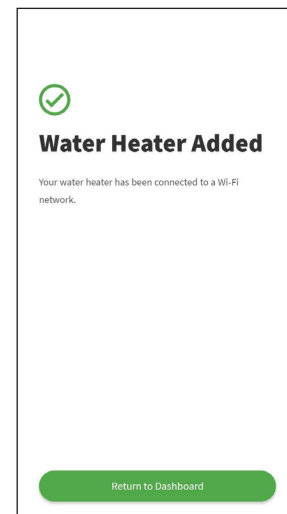

Figure 157 - Water Heater Added
- 6 Once the water heater has successfully connected to your preferred local Wi-Fi network, the app will prompt you with the *Water Heater Added* screen (Figure 157). Select “Return to Dashboard” at the bottom of the screen to then configure the water heater Set Point, Mode, and Time of Use Rate Plan if applicable.